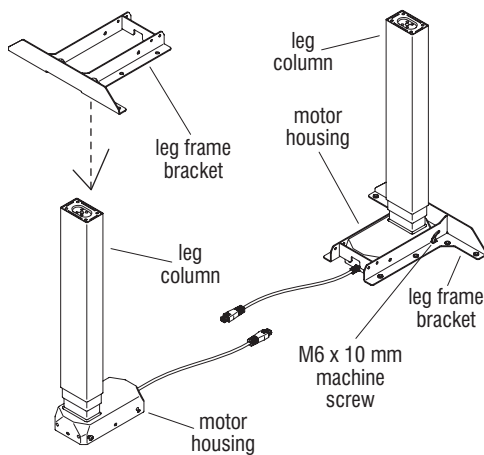

Figure 1
2. Carefully place the leg columns upside down on a soft, protective surface with the motor housings facing each other as illustrated (Figure 1).
3. One leg column at a time, orient the leg frame bracket so the end with the cable notch is over the cable on the motor housing. Lower the bracket down the leg column, aligning the larger opening of the tapered slot on each side of the leg frame bracket with the M6 x 10 mm machine screws partially installed on each side of the motor housing (Figure 1 & Detail A).